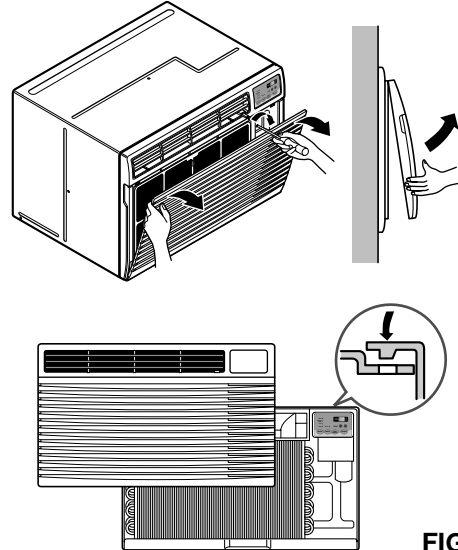

FIG. 24
4. Remove the front grille. (See Fig. 24)